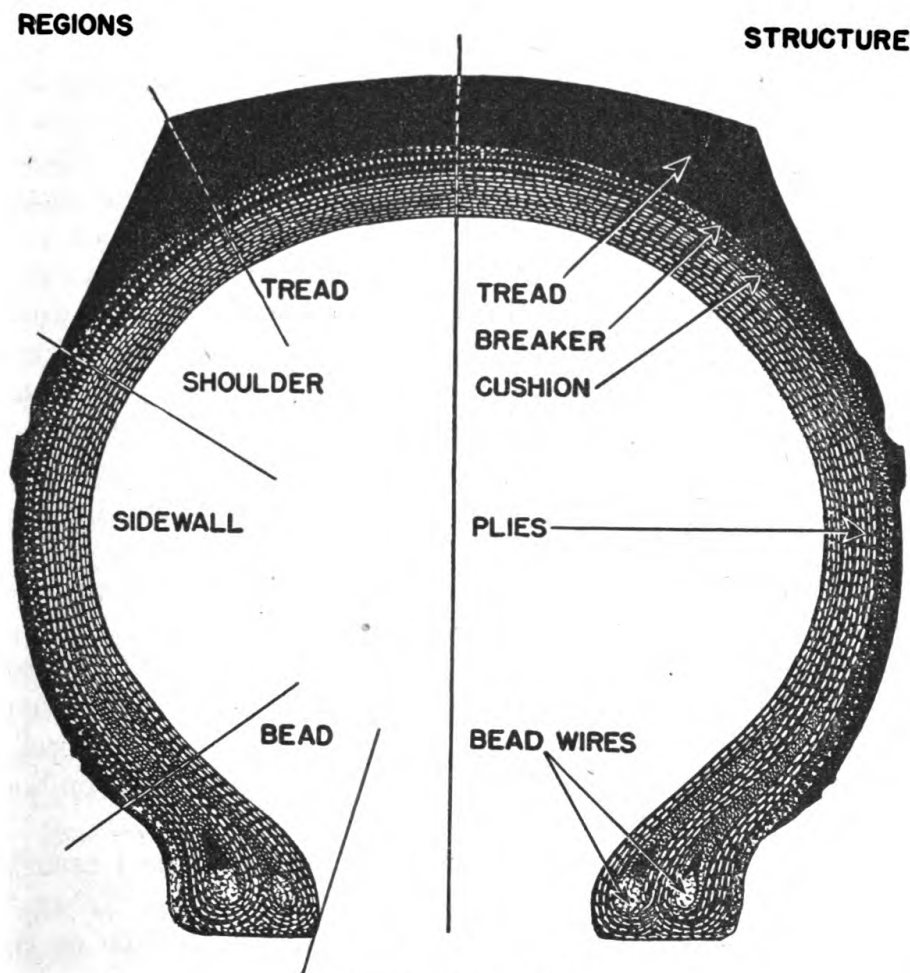

FIGURE 17.—Casing.
**106. Casing.**—*a.* On a demonstration cutaway casing, point out the following main structural points (see fig. 17):